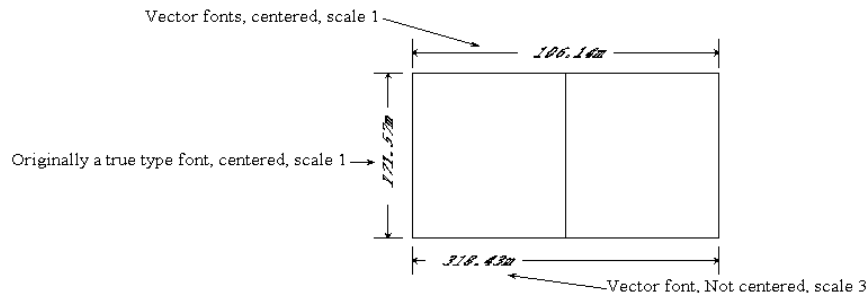

Figure 2-59 - Dimension Vector Fonts
- Slant Angle:** “Slant Angle” specifies the angle at which vector text is slanted to emulate Italics. The angle must be between -45° and 45° (see Figure 2-59).
When the “Centered” check box is checked, dimension text is placed at the midpoint of the dimension line, regardless of the orientation or mode chosen. When unchecked, the dimension text is positioned by moving the cursor along the dimension as the line is positioned (see Figure 2-59).